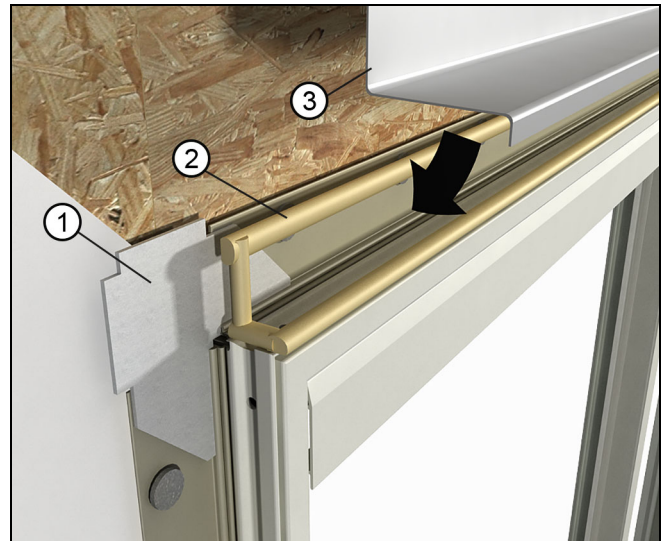

Figure 41
2. Required on wood units/optional on clad units: Install a rigid head flash at the head jamb. Be sure to apply a bead of sealant along the back sides of both vertical and horizontal surfaces of the cap that come in contact with the door, door casing, and/or sheathing. When an integral vinyl drip cap is installed, cut the vinyl drip off before using a rigid head flash. See Figure 41.